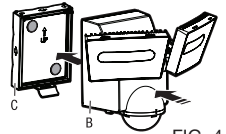

FIG. 4
3. Attach the light fixture to the mounting plate. FIG. 4